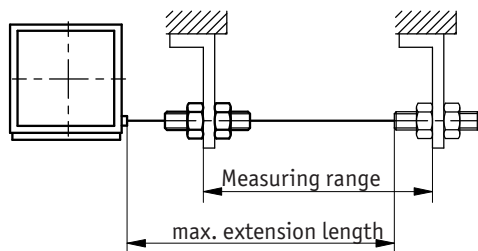

Fig. 3: Extension length check
- ▶ Do not extend the wire beyond the specified maximum extension length (see Fig. 3).
- ▶ Conduct the wire perpendicular to the wire outlet (see Fig. 3).
## Mounting the wire-actuated encoder (Fig. 2, Fig. 3):